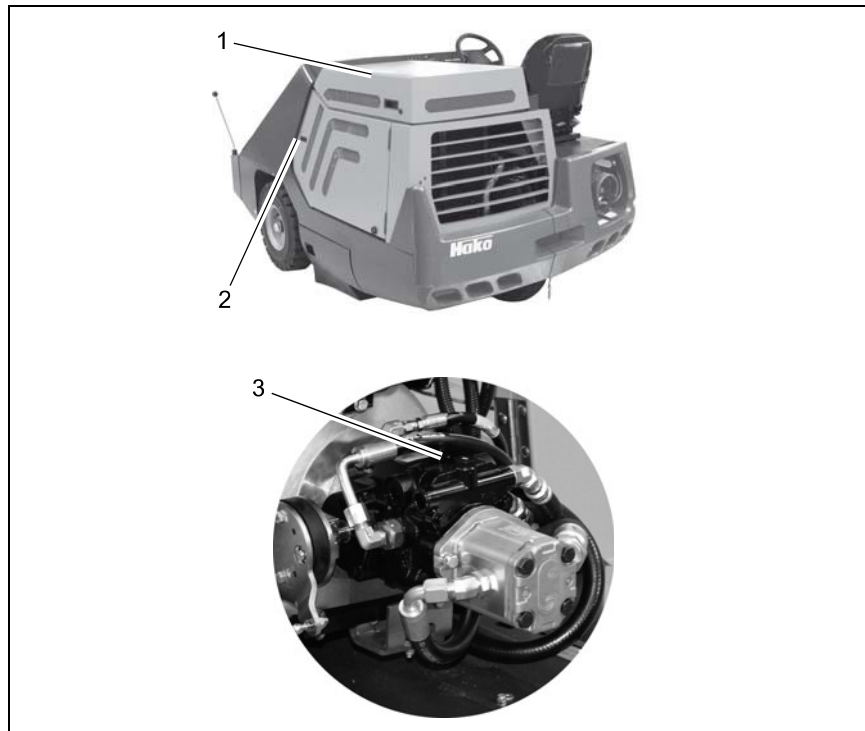

Fig.4
If it is necessary to tow the Hako-Jonas 1900 LPG with the engine stopped, the bypass valve (Fig. 4/3) must be actuated as follows.
1. Open and raise the cover panel (Fig. 4/1) using a square wrench.
2. Open the side panels using the handle (Fig. 4/2) and pivot open.
3. Turn the bypass valve (Fig. 4/3) clockwise by 90°.
4. After towing the vehicle, close the bypass valve (Fig. 4/3) again.